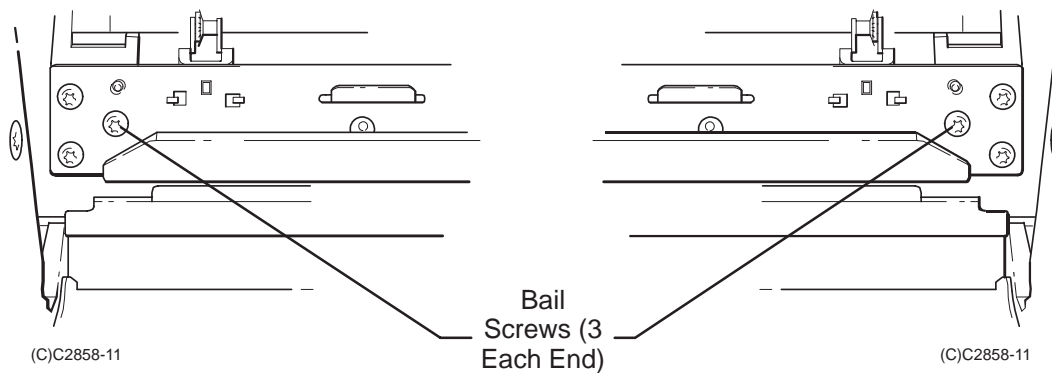

Figure 6-29.
3. Using a TORX T-15 screwdriver, remove the three screws at the left and right ends of the bail that attach the bail to the left and right bail brackets. See Figure 6-29.